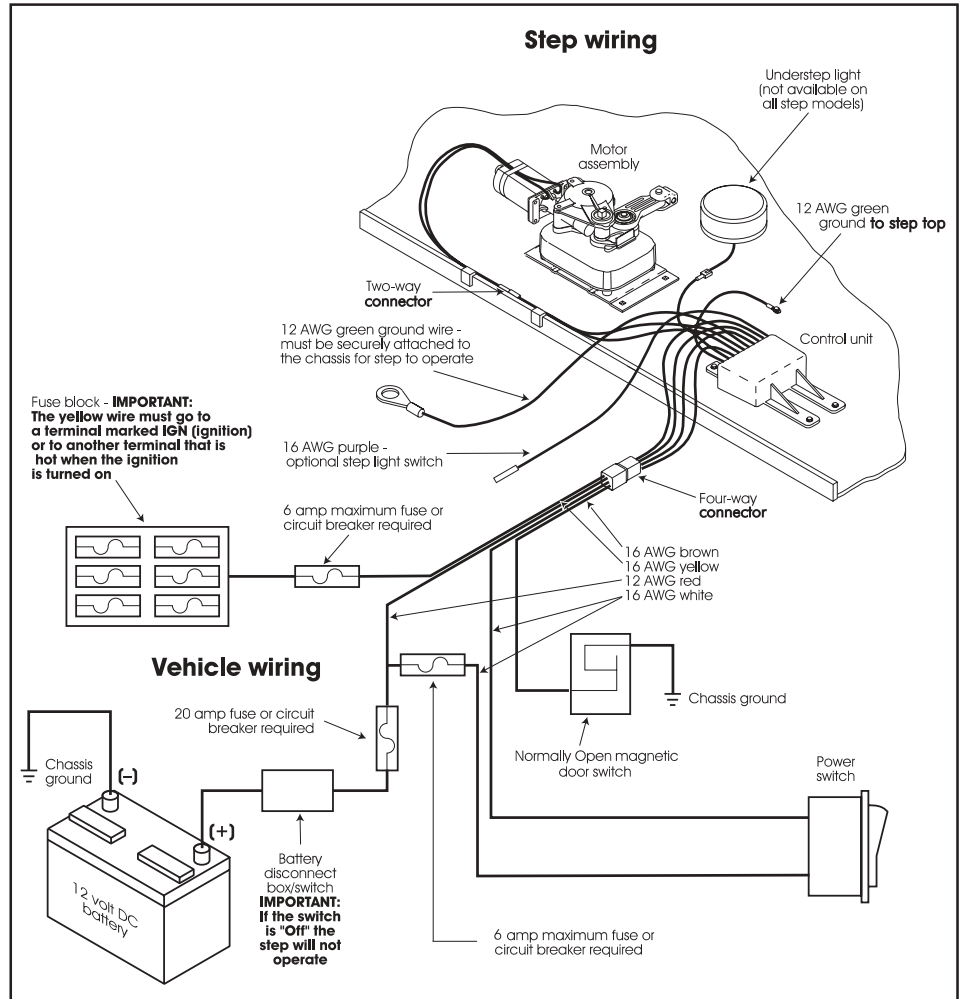
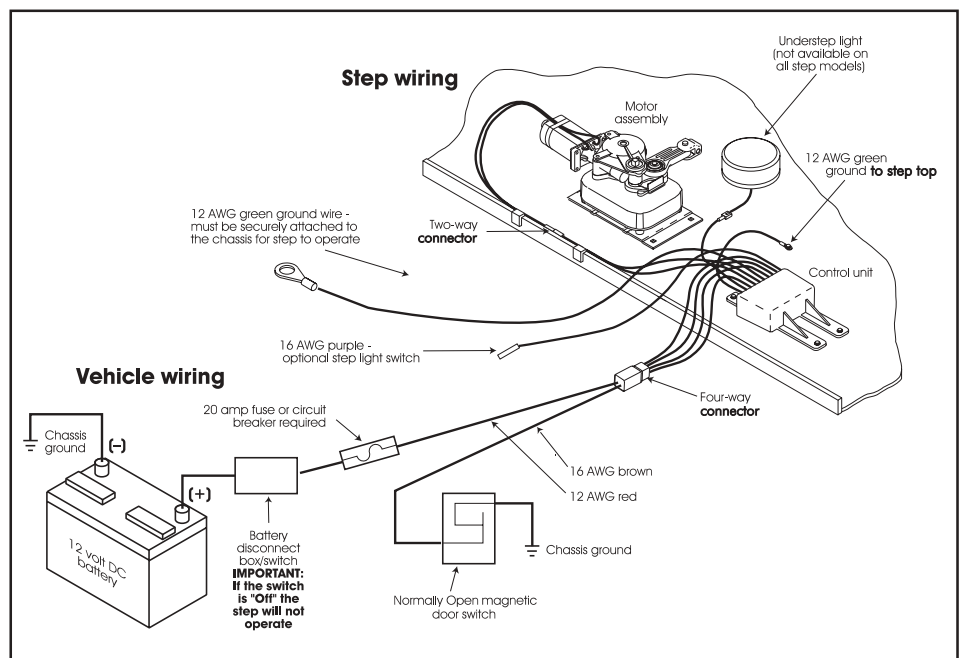

Figure 2 - Step Wiring Diagram (For Van Step wiring kits order part #7541000)
Figure 3 - Step Wiring Diagram: Van steps with door switch only operation (For Van Step wiring kits order part #7540000)
1. Ground the control unit by attaching the long green ground wire from the control unit to the chassis (see figure 2 for all wiring details). For Van Step wiring, follow the wiring schematic illustrated in figure 3.